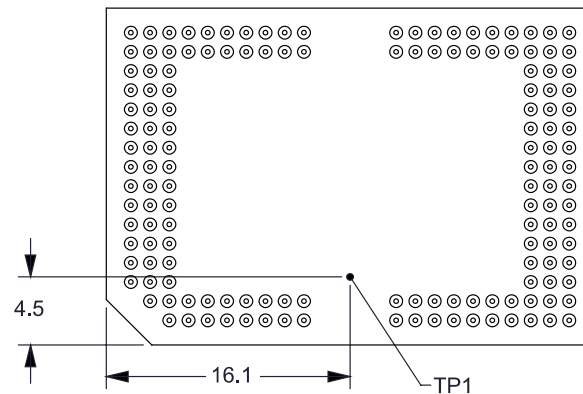

Figure 19. DMD Thermal Test Points
When designing the DMD heatsink solution, the package thermal resistance from array to reference ceramic temperature (thermocouple location TP1 in Figure 19) can be used to determine the temperature rise through the package as given by the following equations:
- $T_{\text{CERAMIC}}$  = measured ceramic temperature, at the TP1 location in Figure 19 (°C)